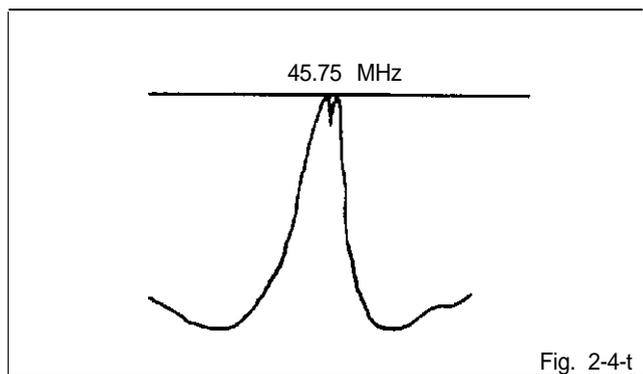

Fig. 2-4-t
5. Adjust VOL. UP/DOWN key on the remote control until the waveform maker (45.75MHz) becomes as shown in Fig. 2-4-b.